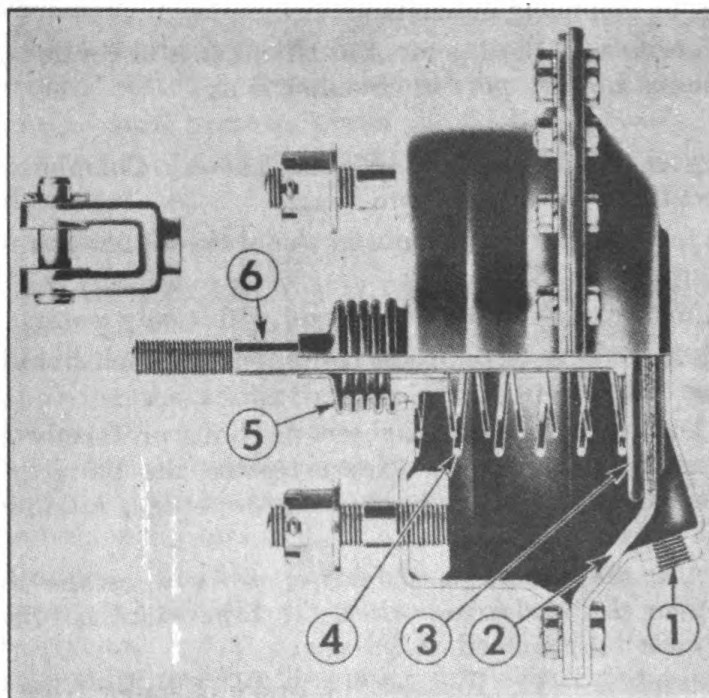

FIGURE 25. SERVICE BRAKES—AIR CHAMBER
15. BRAKE CHAMBERS (Fig. 25).—*a.* This trailer is equipped with six brake chambers. They are all interchangeable.
b. Function.—The function of the brake chamber is to convert the energy of compressed air into the mechanical force necessary to expand the brake shoes against the brake drum and apply the brakes. Air pressure from relay emergency valve enters port (1) behind the flexible diaphragm (2). The force developed moves the flexible diaphragm, moves the push plate (3) and attached push rod (6), so as to rotate the brake cam and apply the brakes.
c. Adjustment.—(1) The stroke of the brake chamber push rod is limited, therefore, the brake must be adjusted (see Brake Minor Adjustment) to keep the push rod stroke within the correct limits. The stroke should never be permitted to exceed $1\frac{3}{4}$ " and when the brakes are adjusted, the stroke should be as short as possible without the brakes dragging. This minimum stroke is usually about $\frac{3}{4}$ ".